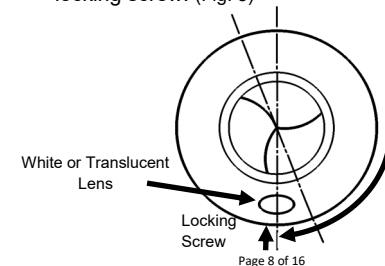

Fig. 8
- Position the front cover over IPX cover in same orientation as it was removed. Lightly press front cover onto the fan and rotate clockwise. Refit locking screw. (Fig. 8)